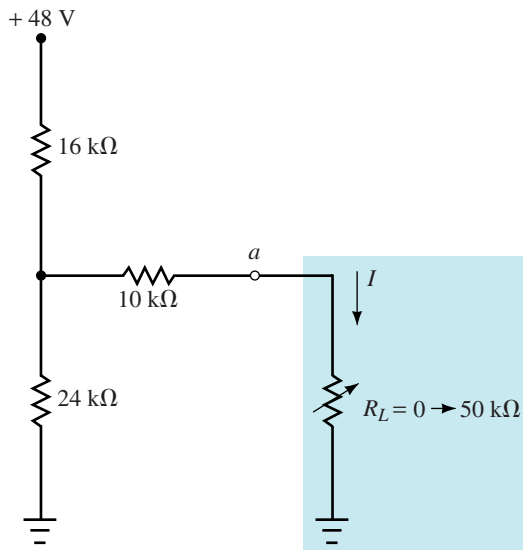

FIGURE 9-93
19. Repeat Problem 17 for the circuit of Figure 9-93.